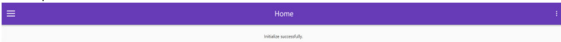

Figure 4 Successful initialization interface
- 4) Click **"Initialize"**. The initialization takes about 2 min. If **"Initialized"** is successfully displayed (as shown in following figure 4), the device is connected successfully, and you can go to the next step.